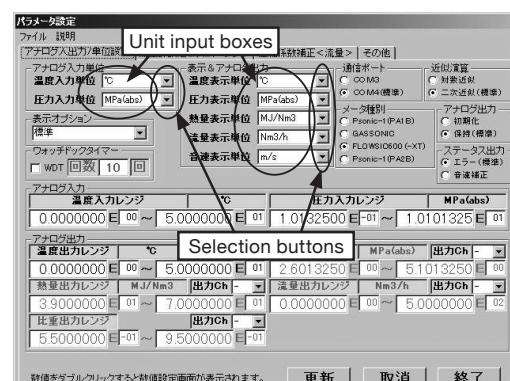

Fig. 8.5.1 Unit Settings
2. The screen as shown in Fig. 8.5.1 Unit Settings, appears.